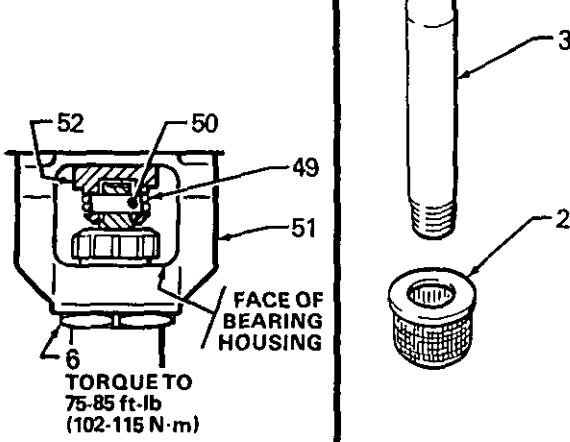

Fig 15
14. Install the screws (9) and lockwashers (10) on the bearing housing and tighten evenly.
15. Screw the displacement pump about 3/4 of the way into the bearing housing (51). Hold the pin (50) up to the pin hole in the connecting rod assembly (51) and continue screwing in the pump until the pin slides easily into the hole. Back off the pump until the top threads of the pump cylinder are flush with the face of the bearing housing and the outlet nipple (32) is facing back. Push the retaining spring (49) into the groove all the way around the connecting rod. Tighten the locknut (6) very tight—about 75-85 ft-lb (102-115 N·m)—with a 2 in. open end wrench and a light hammer. See Fig 15.